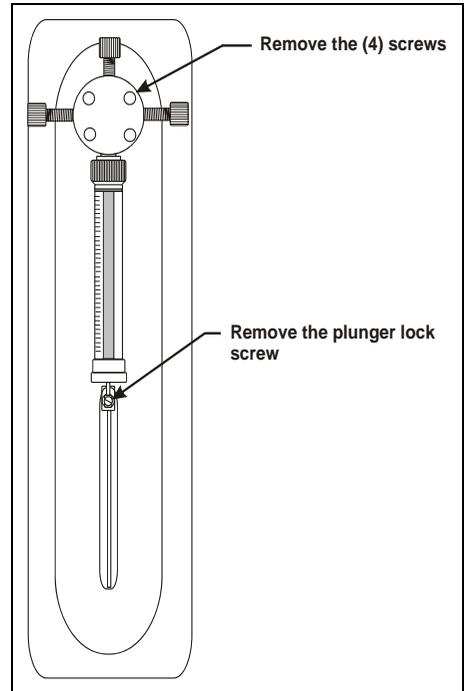

Figure 5-7. Removing the Syringe Pump Valve
4. Remove the socket head screws on the front of the valve, and then remove the valve from the pump (see Figure 5-7). **Do not remove the spacer.**